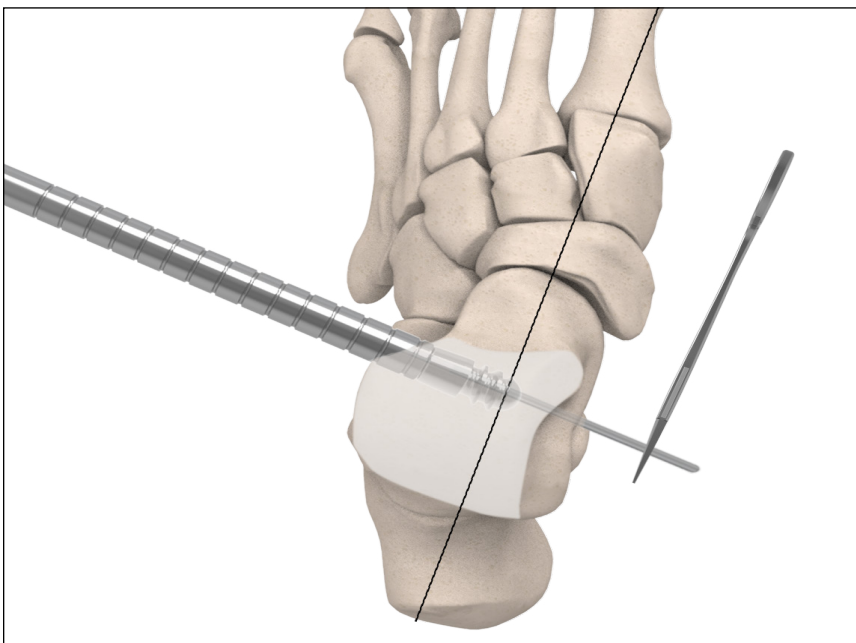

Fig 4
The appropriately sized final implant is chosen, inserted over the guide wire, and threaded into place with the cannulated screwdriver (ref 17228). (Fig 4) At this time the graduated markings of the screwdriver should match and correlate to the sizer probe placement markings.